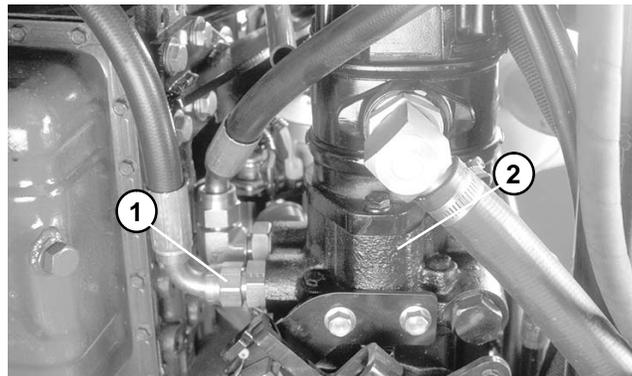

Figure 27
1. Disconnect hose from the lower hydraulic fitting on the bottom of the hydrostat (Fig. 27).